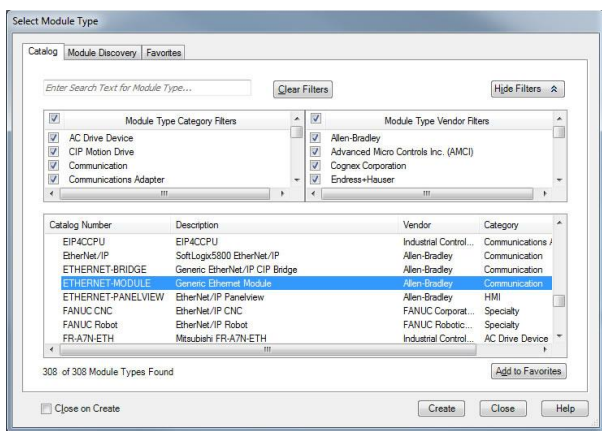

Figure 37: Adding a New Generic Ethernet Module
- 3) Choose "Generic Ethernet Module" in the Select Module dialog box and click "Create". Refer to Figure 37.